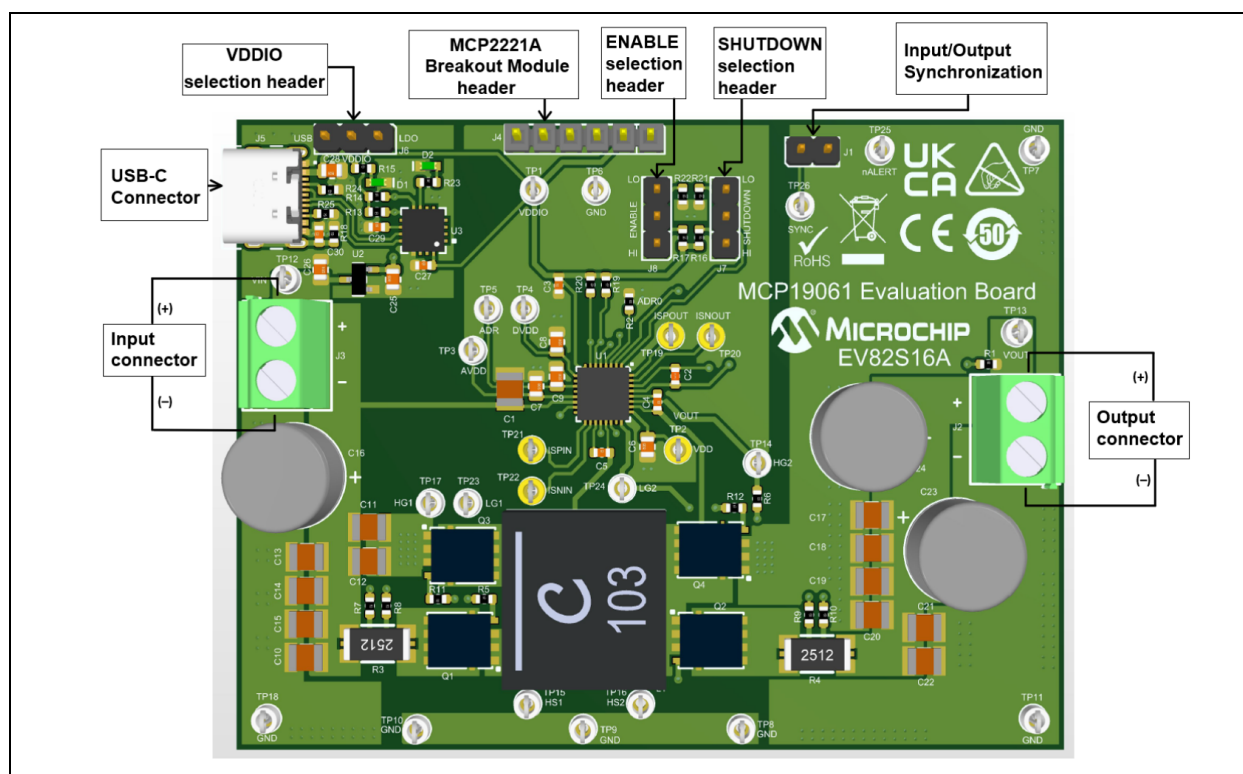

FIGURE 2-1: MCP19061 Four Switch Buck-Boost Evaluation Board – Top View.
1. Connect the electronic load to J2 with the correct polarity (positive side (+) and negative side (-) as shown in Figure 2-1).
2. Connect the adjustable DC power supply to J3 with the correct polarity (positive side (+) and negative side (-) as shown in Figure 2-1).